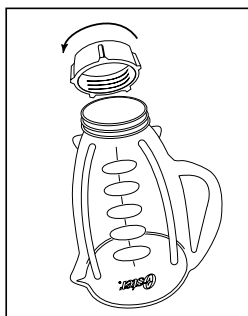

FIGURE 4
4. Place threaded jar nut over blade and jar. Place the threaded jar nut on jar and turn it clockwise to tighten. (Figure 4)